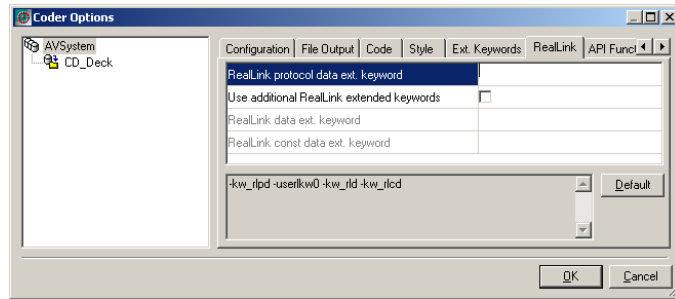

Figure 165: Navigator, Coder Options dialog box, RealLink tab
- 2 Click the RealLink tab. See *Figure 165*, page 209.